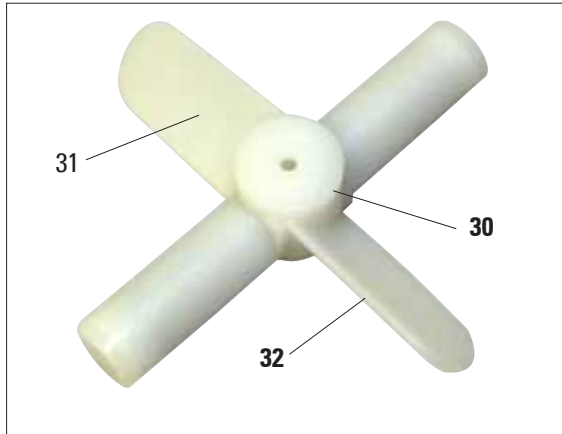

Fig. 7
- Unpack the magnetic stirrer (30, Fig. 7) and insert it into the retort.
The magnetic stirrer must be inserted such that the outer curvature (32) of the two stirrer blades (31) faces downwards! (Fig. 7)